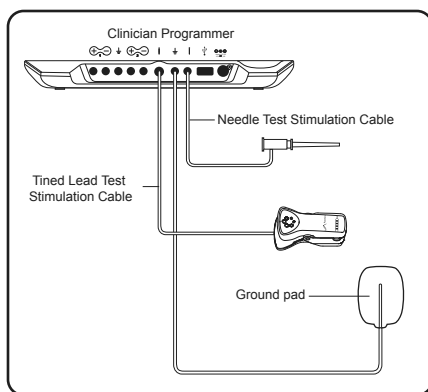

Figure 4. Clinician Programmer cable connections for the lead implant procedure.
- e. Insert the black plug into the CP ground () next to Needle Test Stimulation Cable (**Figure 4**).
7. Insert the black plug of the needle test stimulation cable into the CP outside the sterile field (**Figure 4**). Keep the clip end of the cable in the sterile field.
9. Insert the grey plug of the tined lead test stimulation cable into the CP outside the sterile field (**Figure 4**). Keep the clip end of the cable in the sterile field.